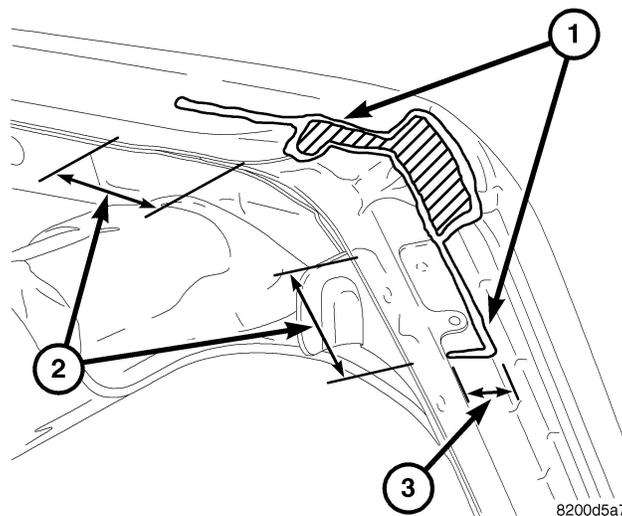

Fig. 3 BUTYL INSTALLATION DIMENSIONS
8. Install butyl to fill gaps in sheet metal or wrinkles, holes and notches in thumb sealer in the area describe in (Fig. 3).